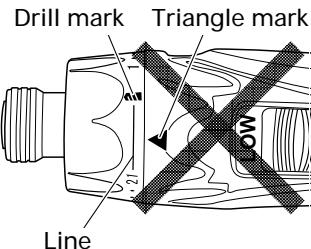

Fig. 9
- Do not use with the clutch dial set at the line between the number "21" and the drill mark "◀▶". Doing so may cause damage (See Fig. 9).